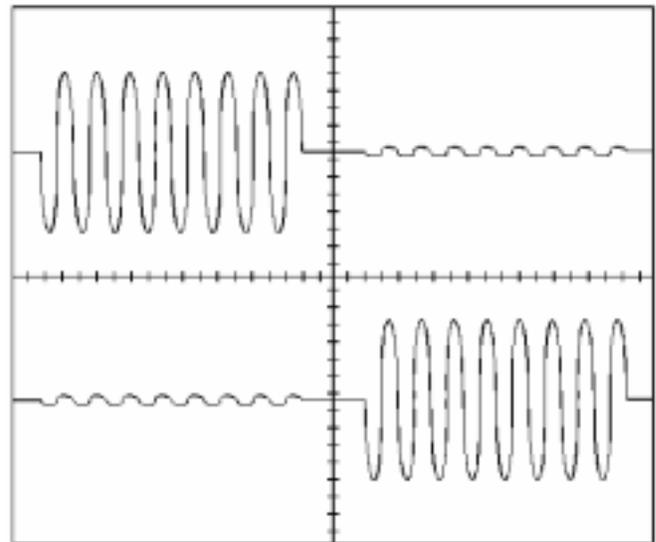

Figure 6. Low crosstalk between channels
5. Move laser lens or solar cell laterally and vertically until you have achieved minimum crosstalk between channels (see figure 6).